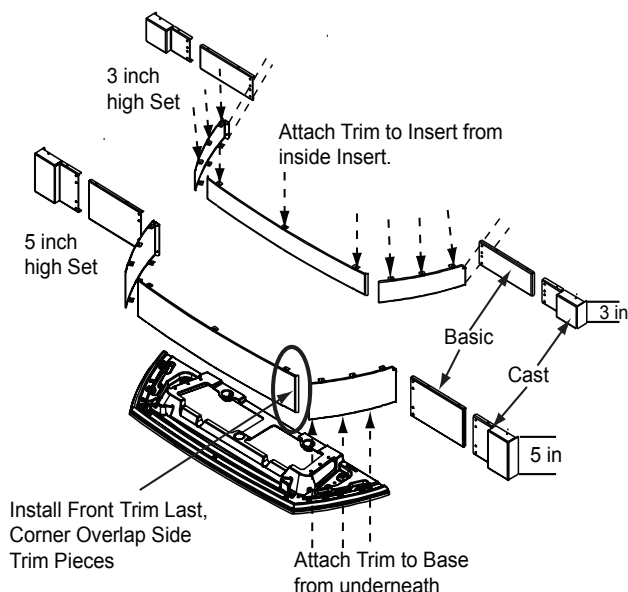

Figure 21.2
4. Lay the cast bottom face up. Attach the 2 sides FIRST and then the front piece (**Figure 21.2**).